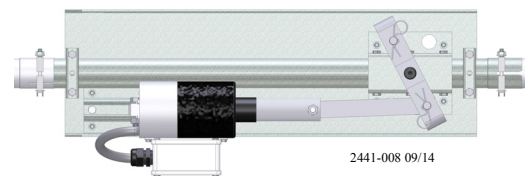

Figure 62. Fully Open Position
- Position the actuator so the actuator is in the “Fully Open Brood Gate Position” (**see figure 62**) if it is not already in the “Fully Open Brood Gate position”.